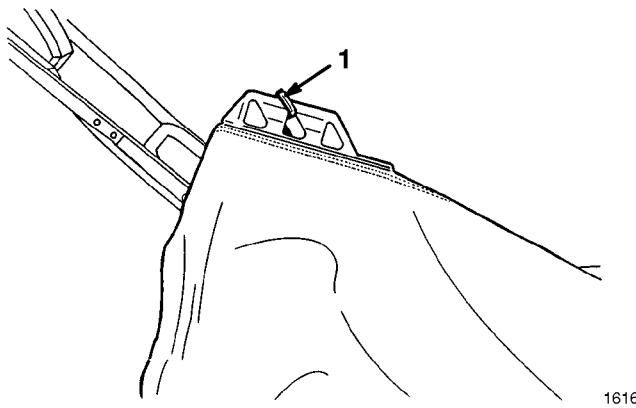

Figure 48
5. Hook the grass bag onto the bag rod (Fig. 48).